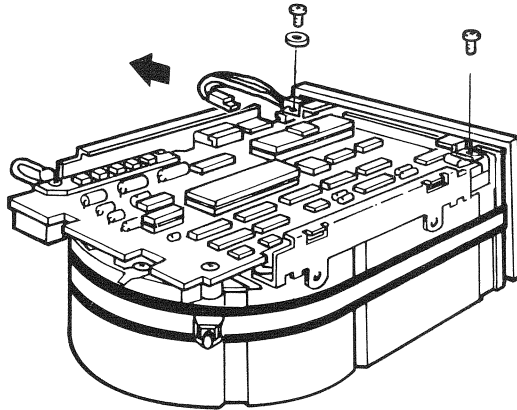

Figure 8-12 Two-Pin Connector and Screw Removal
2. Unplug the two-pin connector (Figure 8-12).